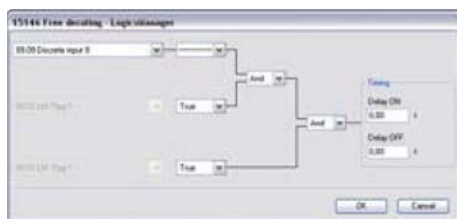

Fig. 202: LogicsManager function "Free derating"
3. ➔ Configure the LogicsManager function "Free derating" as shown in (Fig. 202) to enable derating of power if discrete input [DI 09] is energized.